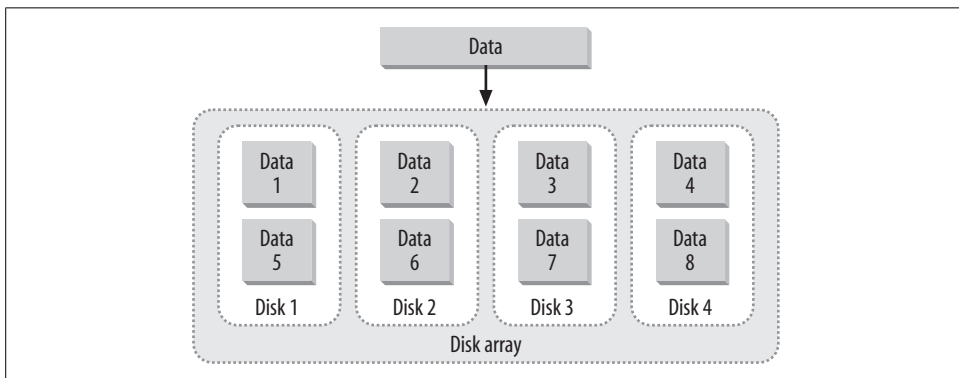

Figure 1-3. Striping improves performance by spreading data across all available disks.
*Striping* is a method by which data is spread across multiple disks (see Figure 1-3). A fixed amount of data is written to each disk. The first disk in the array is not reused until an equal amount of data is written to each of the other disks in the array. This results in improved read and write performance, because data is written to more than one drive at a time. Some arrays that store data in stripes also support redundancy through disk parity. RAID-0 defines a striped array without redundancy, resulting in extremely fast read and write performance, but no method for surviving a disk failure. Not all types of arrays support striping.